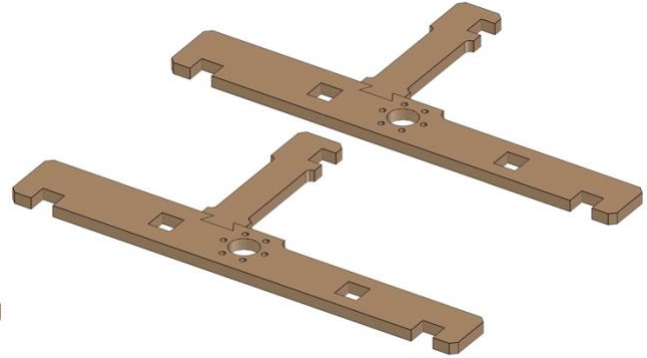

Fig. 6
- *Fig. 6* shows the completed process (make two parts).